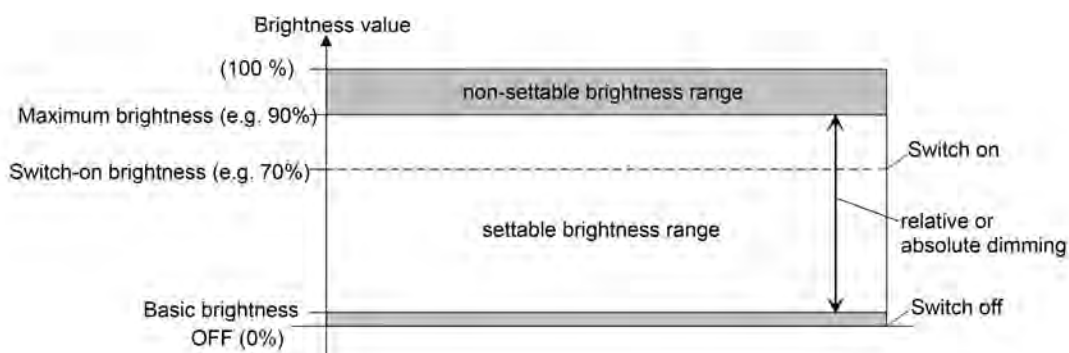

Figure 11: Example of a brightness range with basic brightness
- Definition of the lower brightness limit with basic brightness (figure 11):